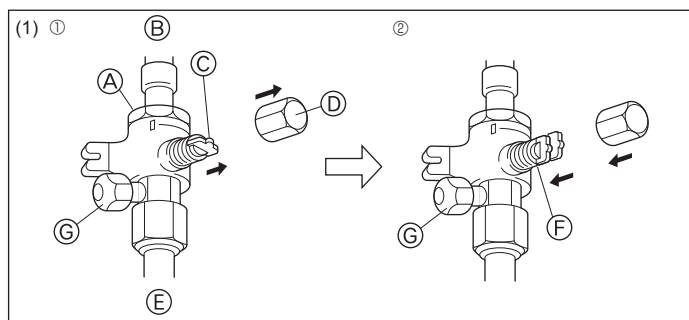
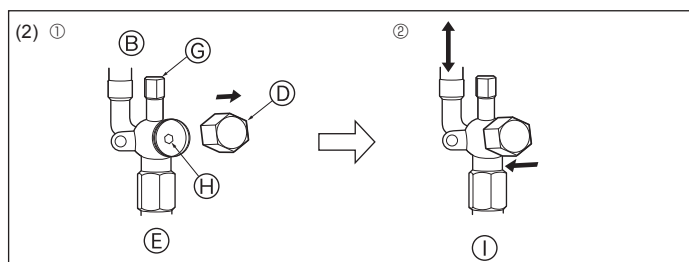

Fig. 4-9
Fig. 4-10
(1) Gas side (Fig. 4-9)
- ① Remove the cap, pull the handle toward you and rotate 1/4 turn in a counterclockwise direction to open.
- ② Make sure that the stop valve is open completely, push in the handle and rotate the cap back to its original position.
(2) Liquid side (Fig. 4-10)
- ① Remove the cap and turn the valve rod counterclockwise as far as it will go with the use of a 4 mm hexagonal wrench. Stop turning when it hits the stopper. (ø6.35: Approximately 4.5 revolutions) (ø9.52: Approximately 10 revolutions)
- (A) Valve
- (B) Unit side
- (C) Handle
- (D) Cap
- (E) Local pipe side
- (F) Open position side
- (G) Service port
- (H) Wrench hole